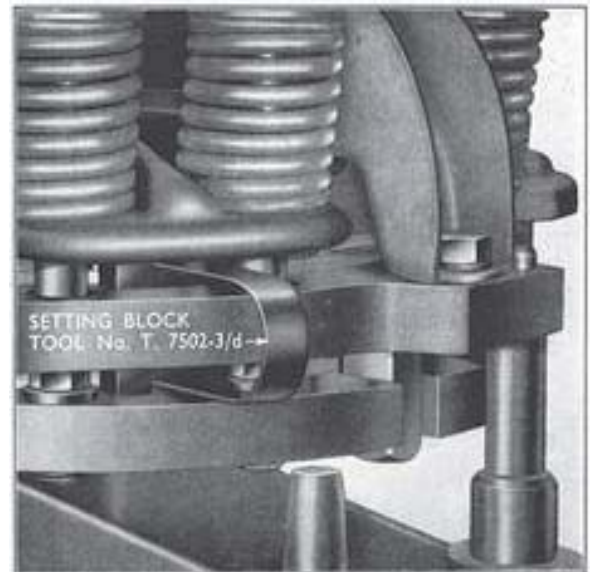
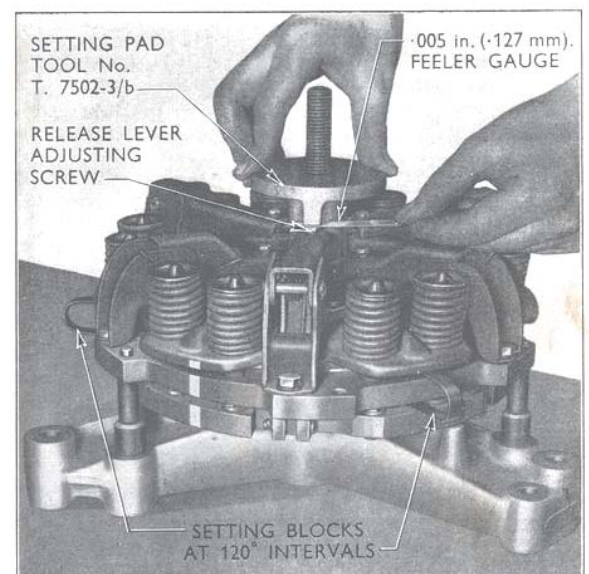

Fig. 12
Fig. 13
2. When the pressure plates have moved sufficiently, insert the three setting blocks (Tool No. T.7502-3/d) between the operating faces of the pressure plates and the centre drive plate until they touch the periphery of the clutch discs (see Fig. 12); the setting blocks should be positioned at 120° intervals around the clutch so that each is directly below one of the small webs which, cast in the top face of the P.T.O. pressure plate, separate adjacent clutch pressure springs (see Fig. 13).
4. Ensure the P.T.O. clutch disc centralising collar is contacting the shoulder of the fixture centre spindle and replace the setting pad on the fixture so that the small diameter face abuts the centralising collar. Two lugs are provided on the setting pad for checking the setting of the release lever adjusting screws, the longer lug for the transmission release levers and the smaller one for the P.T.O. release levers. Set each of the six release lever adjusting screws separately, turning each screw so that when the setting pad is held down firmly on the centralising collar with the appropriate lug directly above the screw being adjusted, a .005 in. (.127 mm.) feeler gauge can just be inserted between the top of the screw and the machined surface on the underside of the lug (see Fig. 13).